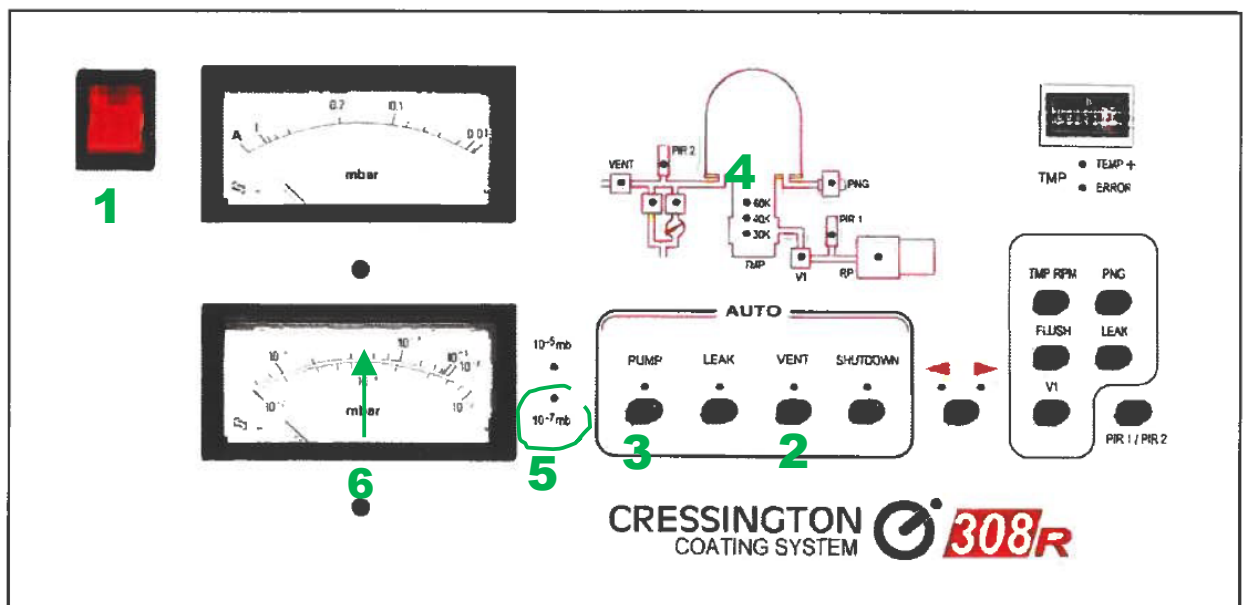
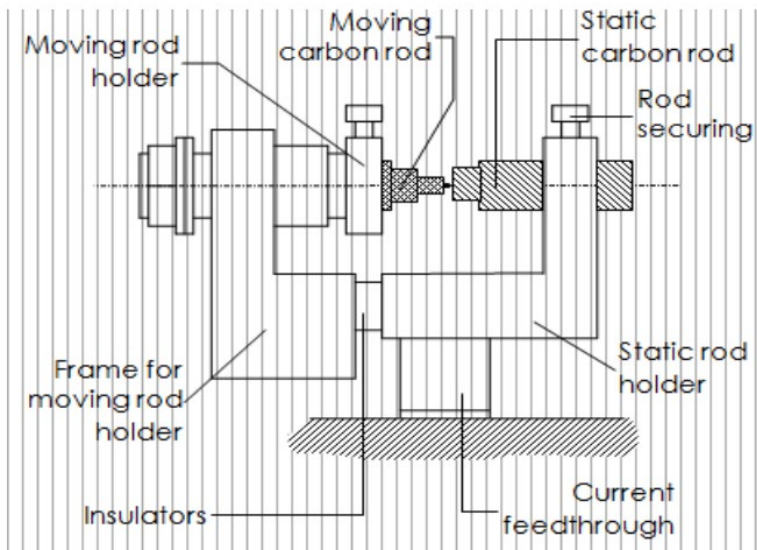

Figure 1
Figure 3
2. The unit is in Shutdown mode (= under vacuum), you have to vent the chamber first: Switch the power ON (1) and on the Auto panel press VENT, open the main valve on the nitrogen gas cylinder (under the table).
4. Sharpen or replace the fixed carbon rod, clean the end of the moving rod, insert them into the rod evaporator. See Fig. 3.
7. Press PUMP (3). **The rotary pump will start, and a little later the Turbo pump will spin up (TMP 60k light will glow steady (4)).**
8. The vacuum gauge will show chamber pressure. Pump until vacuum has reached the proper level ( $7 \times 10^{-7}$  mbar range) (5), gauge hand in the middle of the range (6), see Fig.1. **This may take several hours or overnight.**
9. On the Evaporator Supply, Press the START button (7), then turn the knob (8) so that the line points straight up (~55% on the OUTPUT display) , current gauge should be at ~100A . Leave for 6-8 s then turn OFF (7) and turn the knob (8) all the way to the left again.